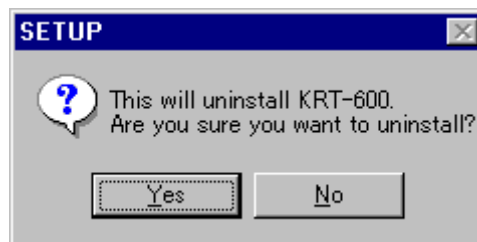

Fig. 9 Uninstall Starting Screen
- (1) First, click "KRT-600" and then click [Add/Delete (R)].
Execute [Add/Delete (R)] to start the Setup program. The screen shown in Fig. 9 appears.